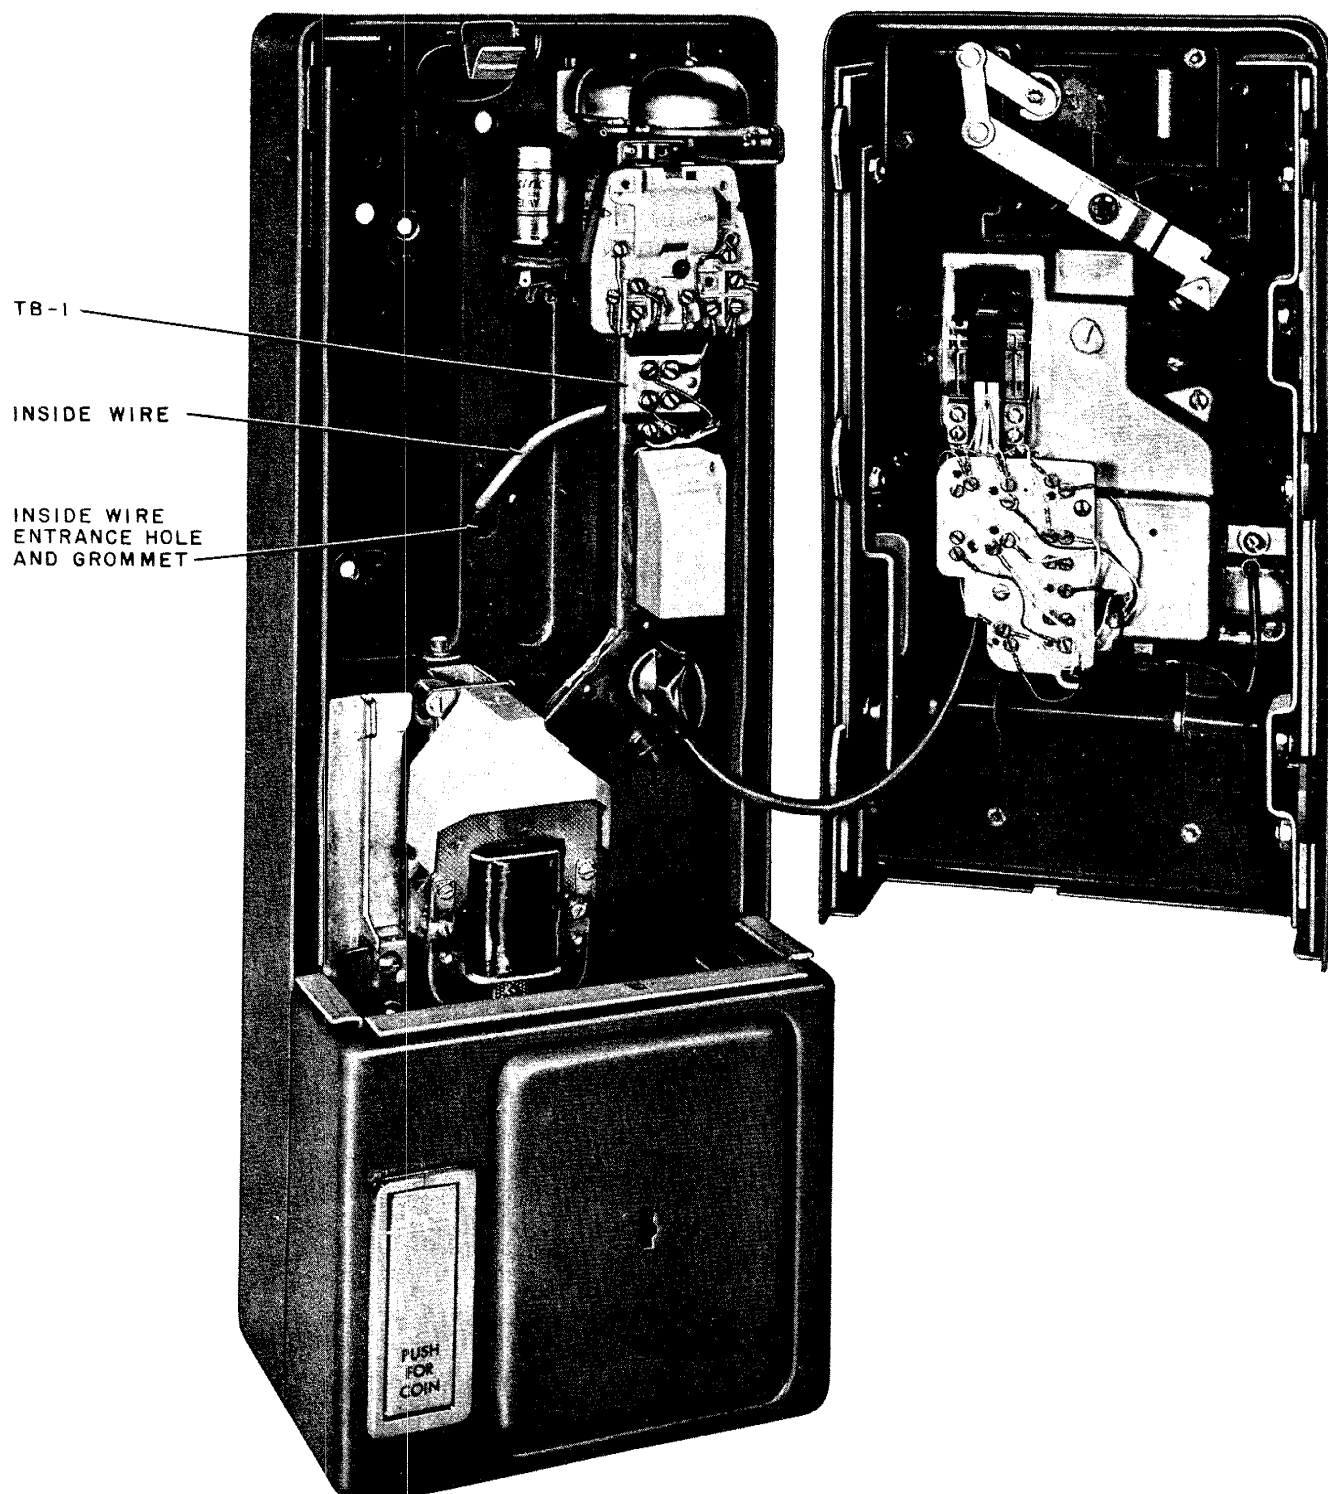

Fig. 11—1A-Type Coin Telephone Showing Wire Entrance and Routing (Typical)
Note: When installing chassis assembly, dress inside wire behind chassis as shown in Fig. 11. Allow for the wire to be connected to TB-1 from right side.
4.17 See Fig. 11 for correct routing of inside wire. Dress wire behind chassis and run to right side of TB-1.